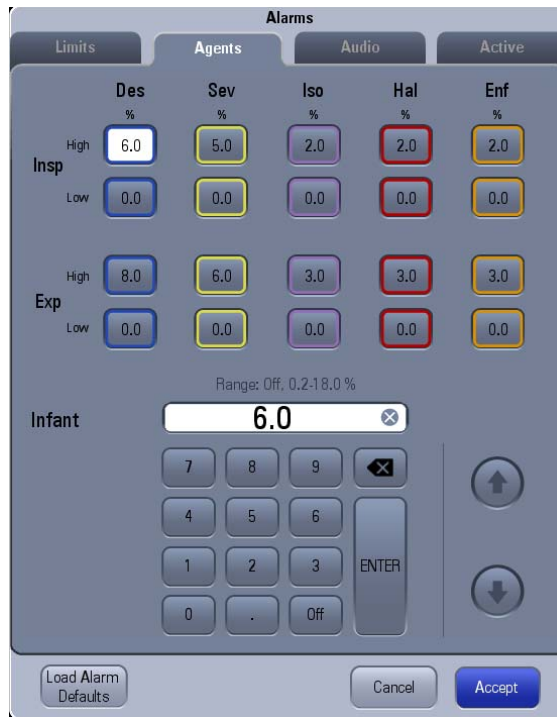

FIGURE 8-5 Agents tab
2. Select the **Limits** tab (see FIGURE 6-6) or **Agents** tab (see FIGURE 8-5).